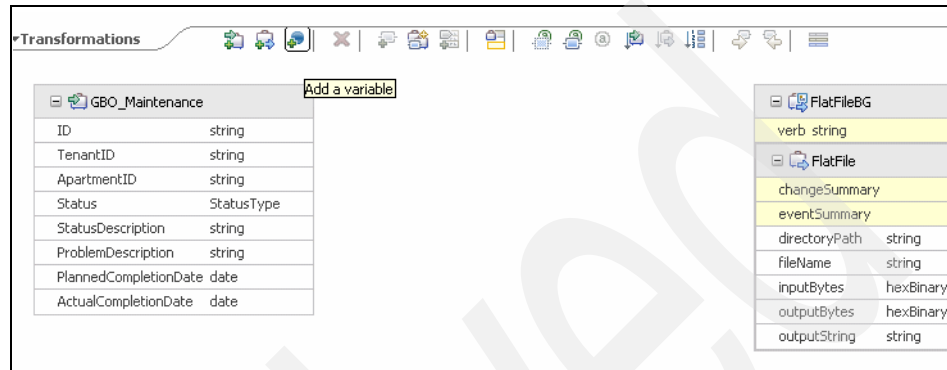

Figure 2-21 Add a variable
2. Click **Add a Variable** (Figure 2-21).